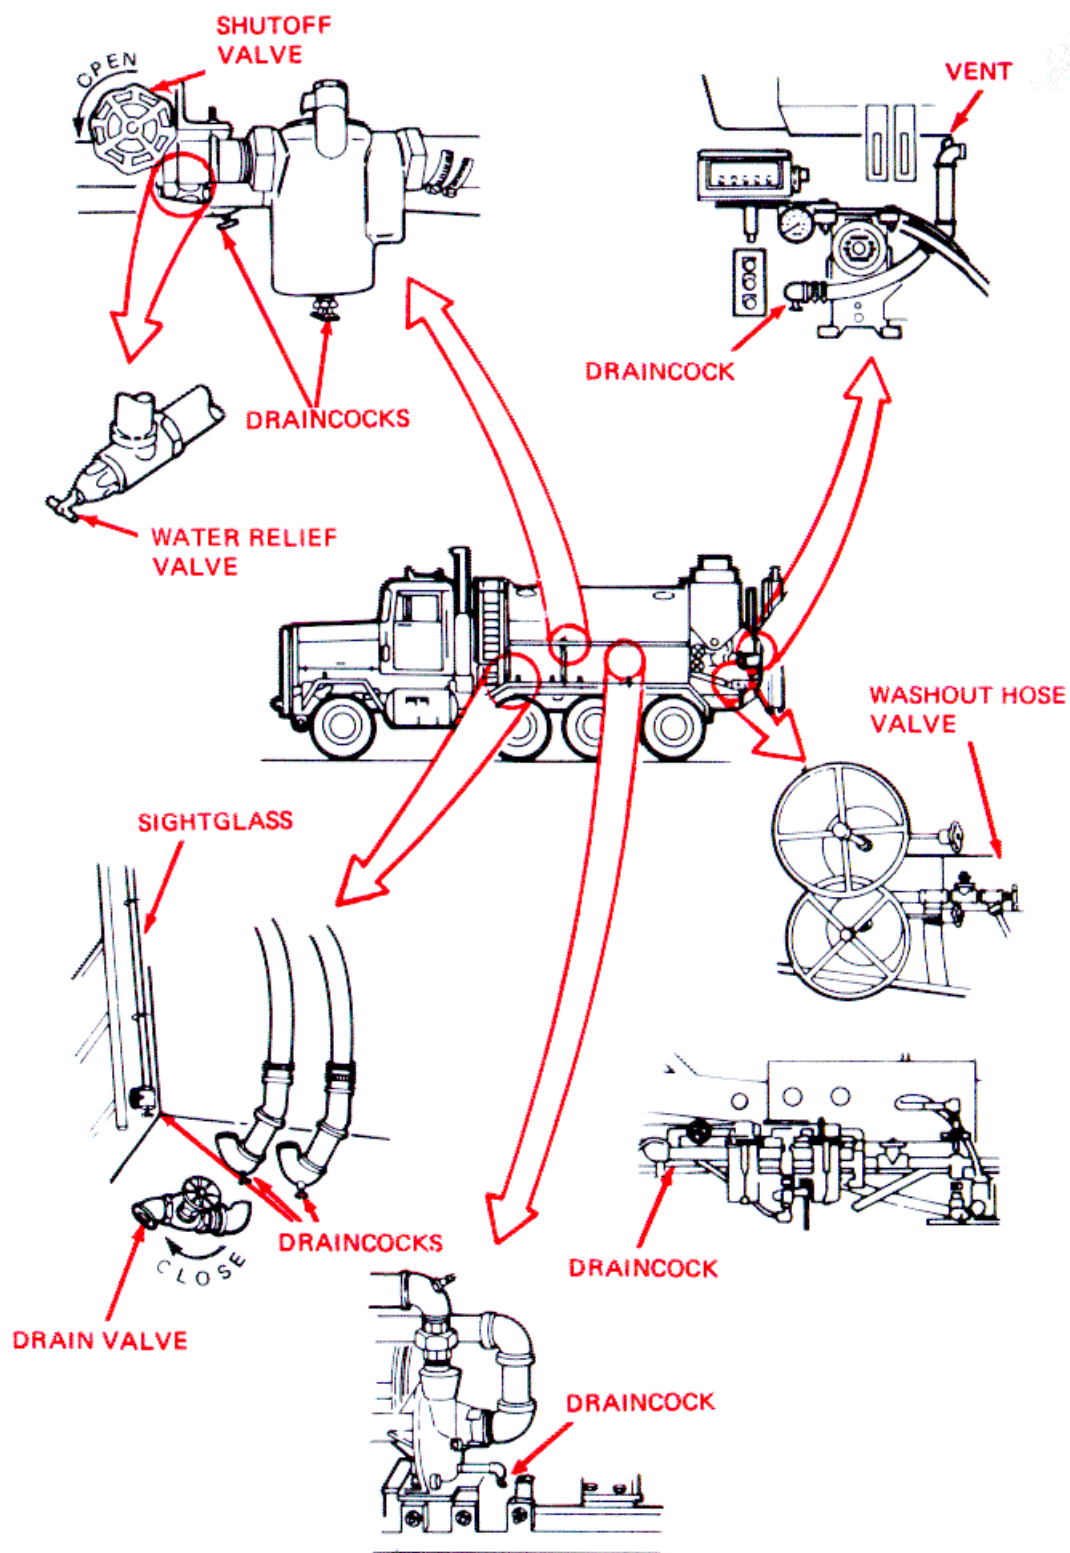

Figure 2-24. Opening the Water System.
- (2) Check to be sure all eight draincocks and the vents are closed (fig. 2-24).
- (3) Open the water shutoff valve. (Turn it all the way counterclockwise) (fig.2-24).
- e. Adjust Water Pressure. (See fig.2-24.).
- (1) Open the washout hose valve.
- (2) Turn the handle on the water relief valve until washout hose sprays water about 35 ft (10.68 m).
- (3) Close the washout hose valve (fig. 2-24).